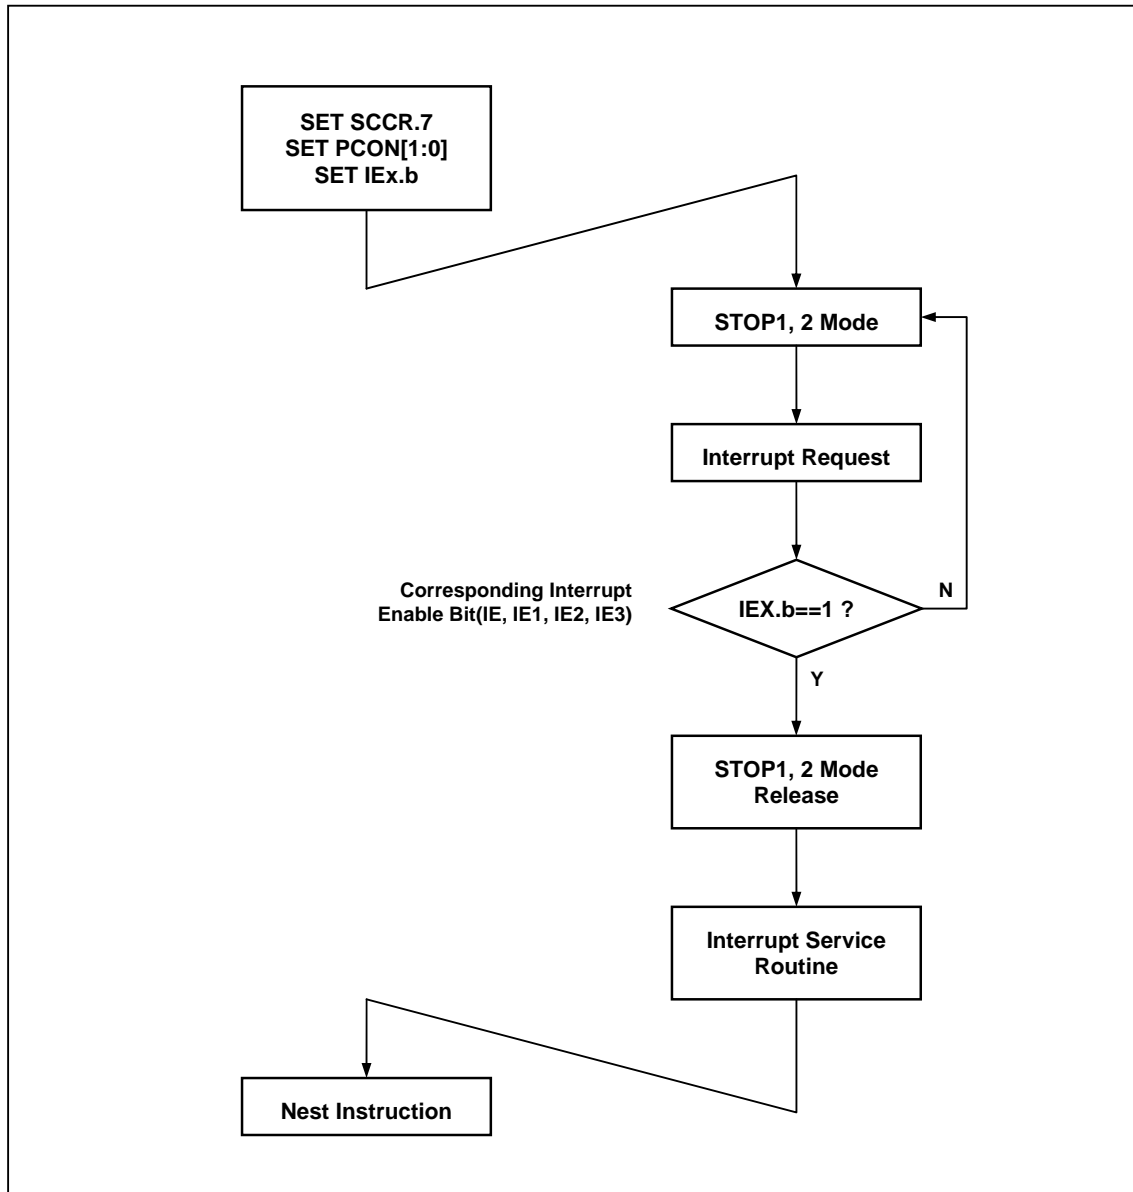

Figure 5.3 STOP1, 2 Mode Release Flow
After STOP1, 2 mode is released, the operation begins according to content of related interrupt register just before STOP1, 2 mode start (Figure 5.3). Interrupt Enable Flag of All (EA) of IE should be set to `1`. Released by only interrupt which each interrupt enable flag = `1`, and jump to the relevant interrupt service routine.